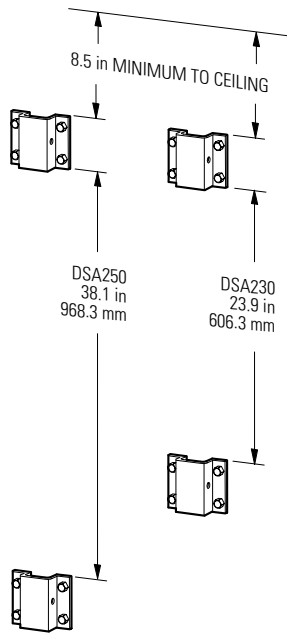

Figure 5.5.7a Wall Bracket Spacing
1. Spacing between the Wall Brackets for a single loudspeaker must be within 0.1 in / 3 mm of the dimensions in Figure 5.5.7a.